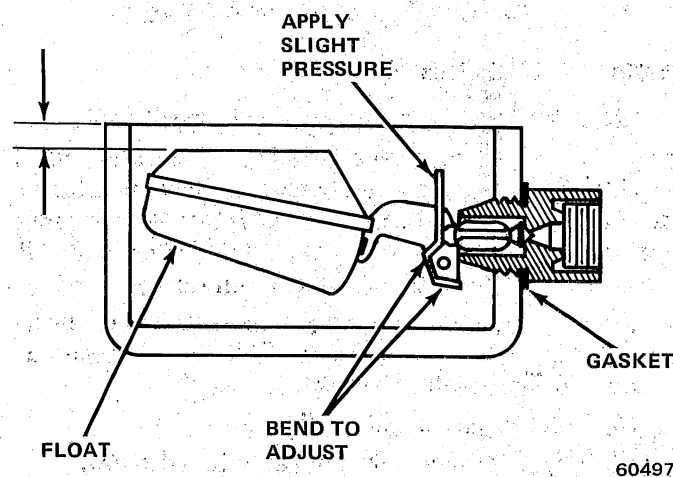

Fig. 1J-108 Float Level Adjustment
(1) Remove air horn.
(2) Raise float gently against needle and hold (fig. 1J-108).